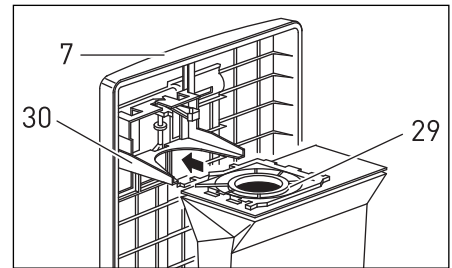

Figure 9
## Changing the Filter Bag - Figure 9
2. Bag not inserted properly.	2. Reinsert bag with cover release flap (5) up, until firmly latched in bag holder (see pg. 10, figure 9).